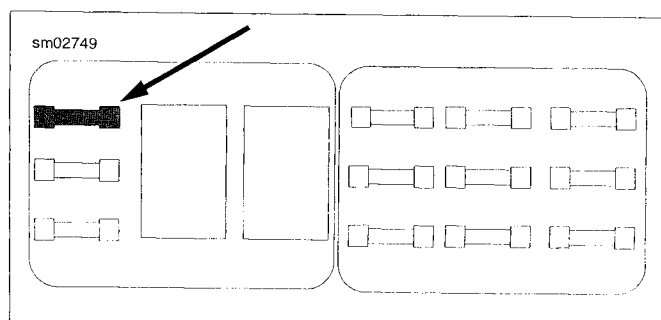

Figure 4-3. Fuel Pump Fuse: View from Top
- a. See Figure 4-3. Disconnect the fuel pump fuse from the main wiring harness.
9. See Figure 4-3. Connect the fuel pump fuse to the main wiring harness.